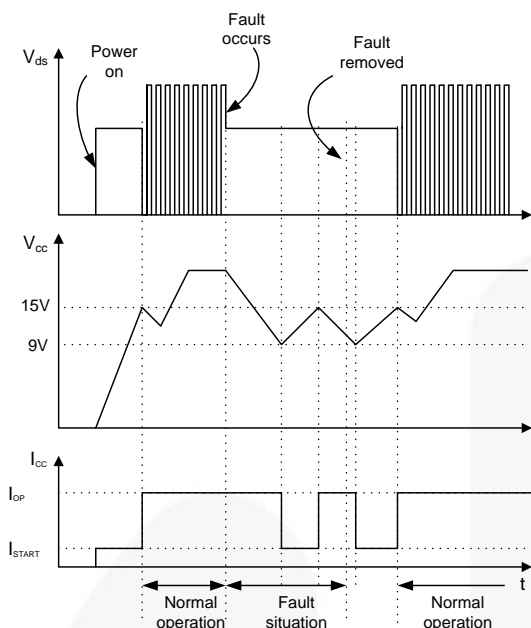

Figure 33. Auto Restart Mode Protection
- **Auto-Restart Mode Protection:** Once the fault condition is detected, switching is terminated and the SenseFET remains off. This causes V_{CC} to fall. When V_{CC} falls to the under voltage lockout (UVLO) stop voltage of 9 V, the protection is reset and the FSCQ series consumes only startup current (25 μ A). Then, the V_{CC} capacitor is charged up, since the current supplied through the startup resistor is larger than the current that the FPS consumes. When V_{CC} reaches the start voltage of 15 V, the FSCQ series resumes its normal operation. If the fault condition is not removed, the SenseFET remains off and V_{CC} drops to stop voltage again. In this manner, the auto-restart can alternately enable and disable the switching of the power SenseFET until the fault condition is eliminated (see Figure 33).